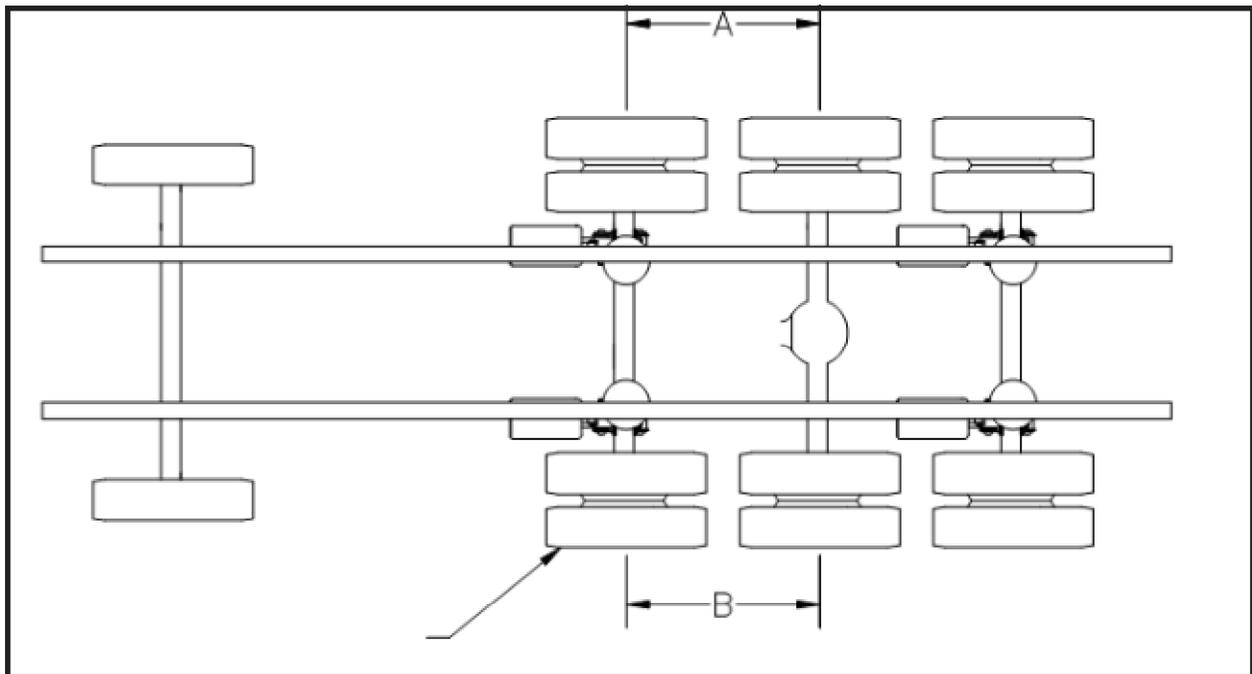

Figure 3
5. Using (2) 1/2" break over bars or ratchets rotate the other two collars on the other hanger so the suspension moves forward or backward to allow the distance from center of spindle to the center of the drive axle (**Figure 3** Dimension A & B) to be equal distance within 1/8".